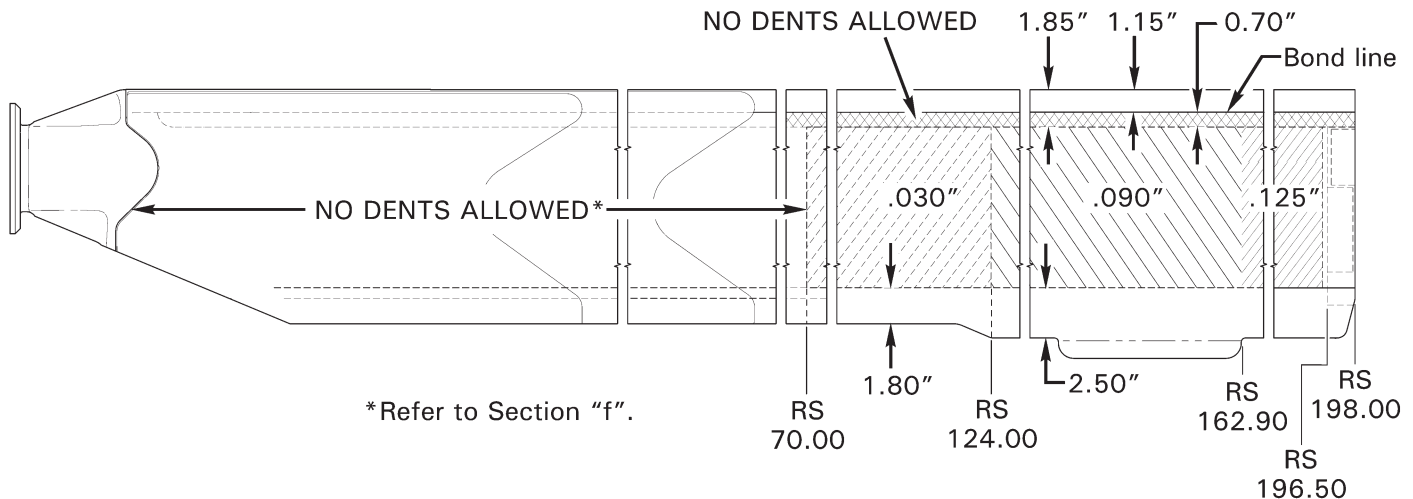

FIGURE 62-11 DENTS ON SKINS AND DOUBLERS – DAMAGE LIMITS (TOP AND BOTTOM OF BLADE)
1. Refer to Figure 62-11. Smooth, round bottom dents with 0.060 inch minimum radius that occur in honeycomb and unsupported areas of the blade as listed below may be repaired when damage does not exceed the following limits: